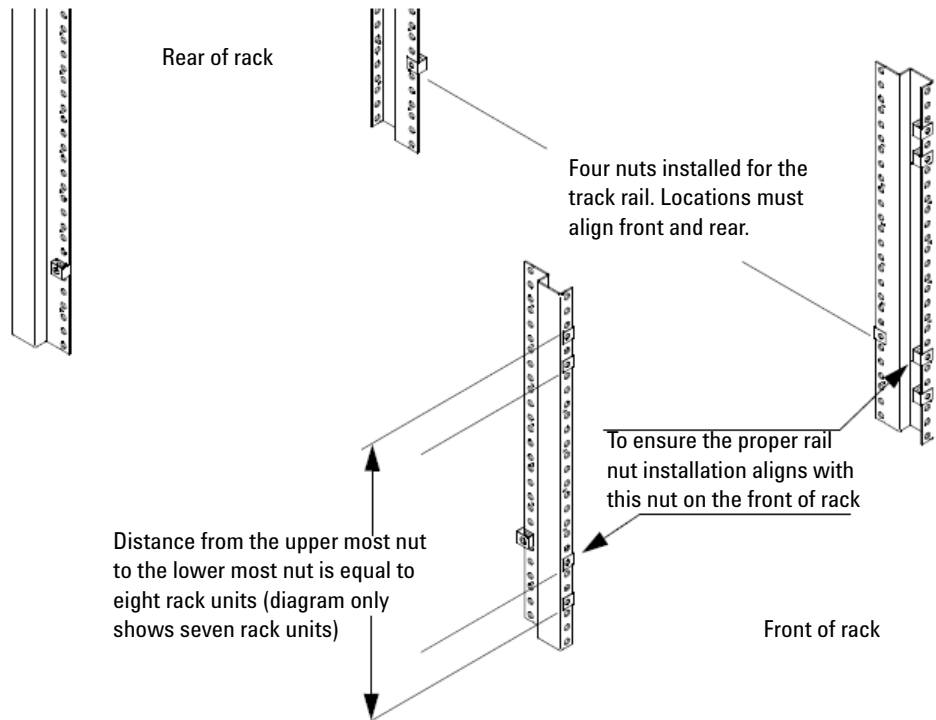

Figure 1-16 Proper locations for the sheet metal nut locations
- 2 **Figure 1-16** indicates the proper locations for the sheet metal nut locations.